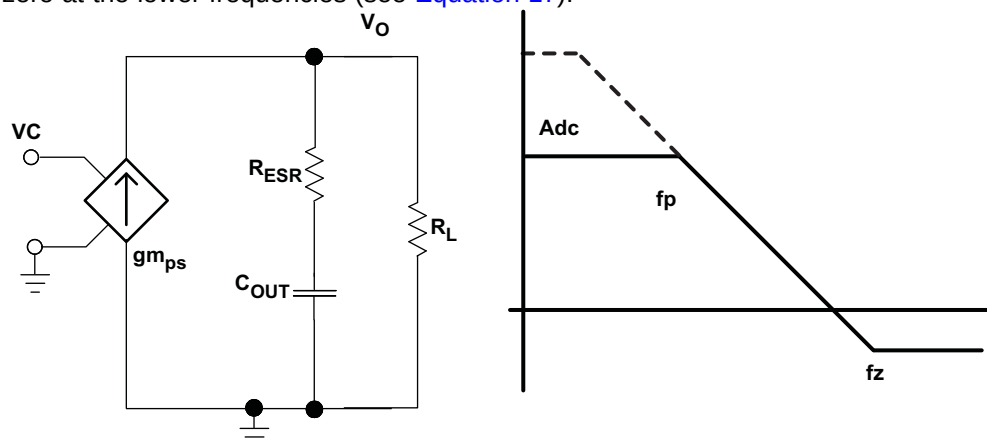

### Figure 47. Small Signal Model for Loop Response
Figure 47 shows an equivalent model for the TPS54060 control loop which can be modeled in a circuit simulation program to check frequency response and dynamic load response. The error amplifier is a transconductance amplifier with a  $g_{m_{EA}}$  of 97  $\mu A/V$ . The error amplifier can be modeled using an ideal voltage controlled current source. The resistor  $R_o$  and capacitor  $C_o$  model the open loop gain and frequency response of the amplifier. The 1mV ac voltage source between the nodes a and b effectively breaks the control loop for the frequency response measurements. Plotting c/a shows the small signal response of the frequency compensation. Plotting a/b shows the small signal response of the overall loop. The dynamic loop response can be checked by replacing  $R_L$  with a current source with the appropriate load step amplitude and step rate in a time domain analysis. This equivalent model is only valid for continuous conduction mode designs.
**Figure 48** describes a simple small signal model that can be used to understand how to design the frequency compensation. The TPS54060 power stage can be approximated to a voltage-controlled current source (duty cycle modulator) supplying current to the output capacitor and load resistor. The control to output transfer function is shown in Equation 14 and consists of a dc gain, one dominant pole, and one ESR zero. The quotient of the change in switch current and the change in COMP pin voltage (node c in Figure 47) is the power stage transconductance. The  $gm_{PS}$  for the TPS54060 is 1.9A/V. The low-frequency gain of the power stage frequency response is the product of the transconductance and the load resistance as shown in Equation 15.